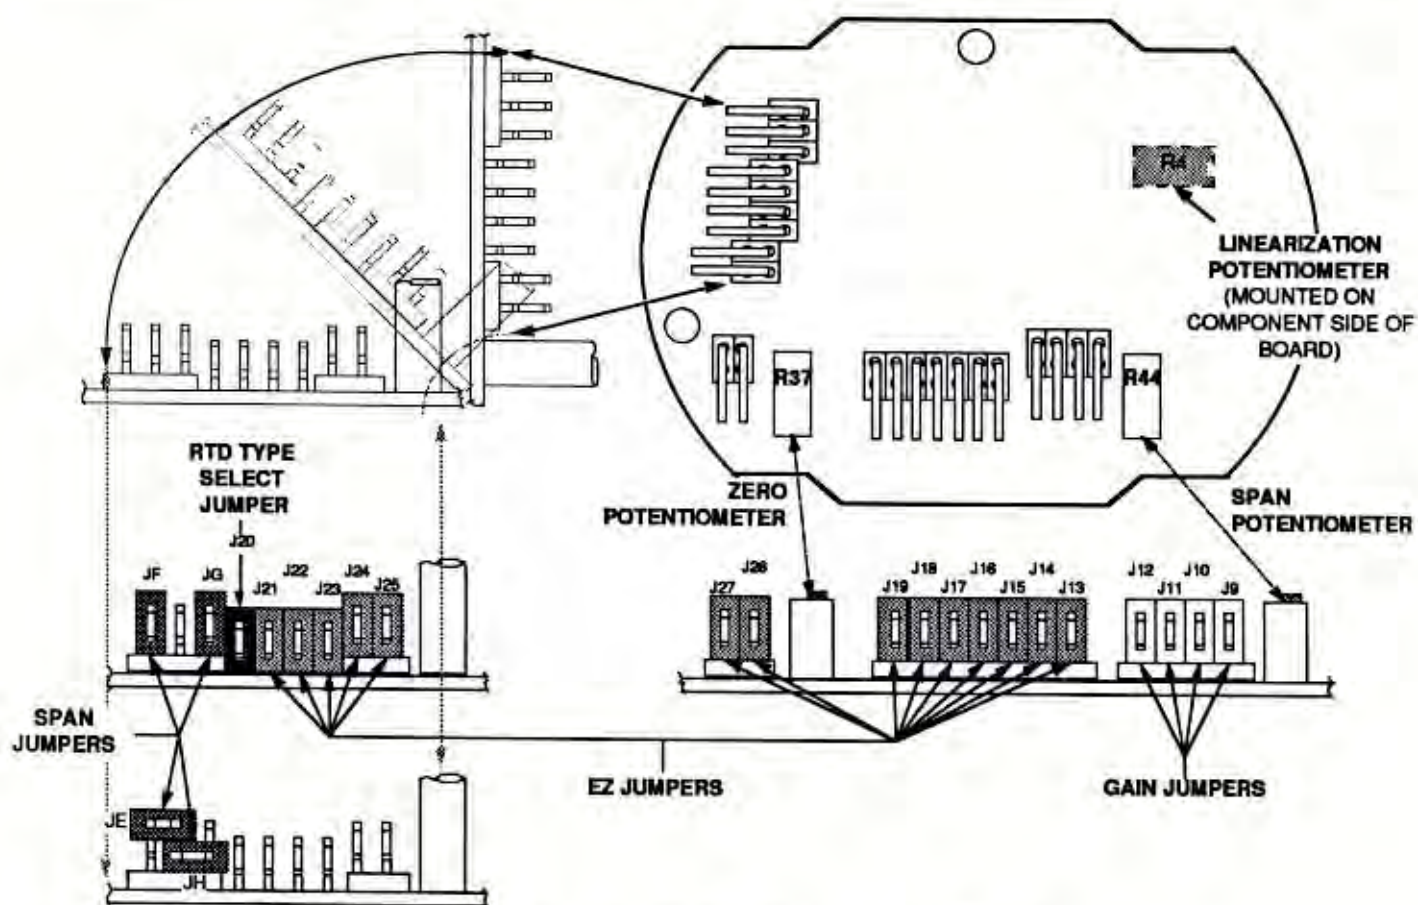

Figure 3. Jumpers and Pots, the HP-style EP-RBX Printed Circuit Board 1
2. Verify installation of, or re-install the following internal jumpers (refer to figures 3, 4, or 5, as appropriate) to set: